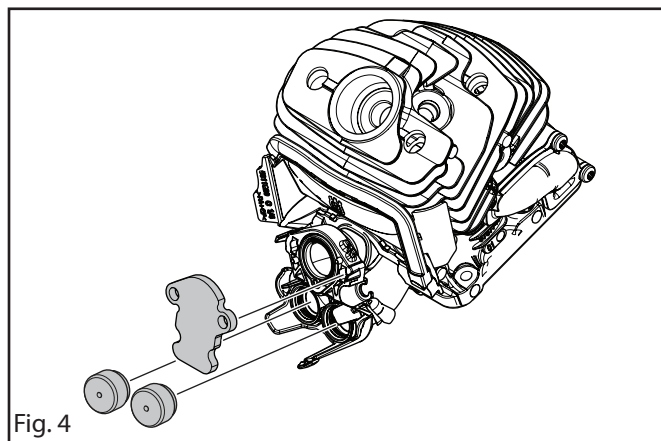

Fig. 4
1. Fit the cover plates on the intake manifold. See figure 4.